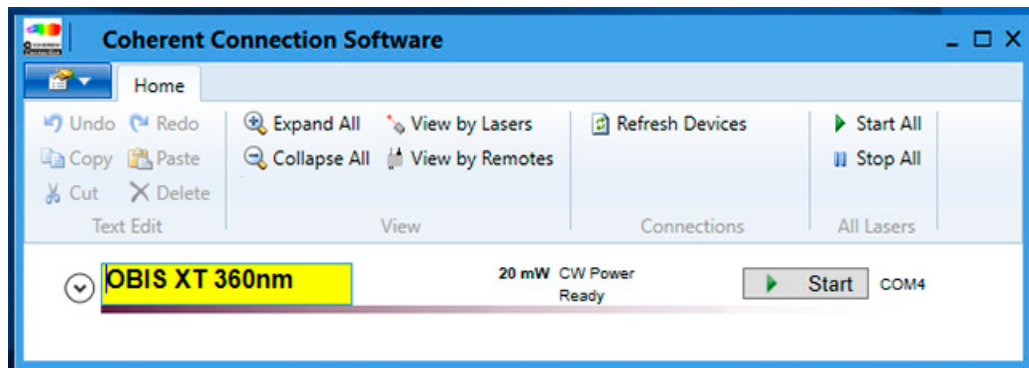

Figure 4-22. Change the Laser Name Displayed in the Software (OBIS XT example)
When Coherent Connection software is used with multiple lasers, users can rename each laser to more easily identify it, as shown in the example in Figure 4-22. For example, the name might include the laser model (such as OBIS XT or OBIS LS), the wavelength, or the location of the laser.
1. Click the down arrow beside the laser name. The text box is highlighted (refer to Figure 4-22).